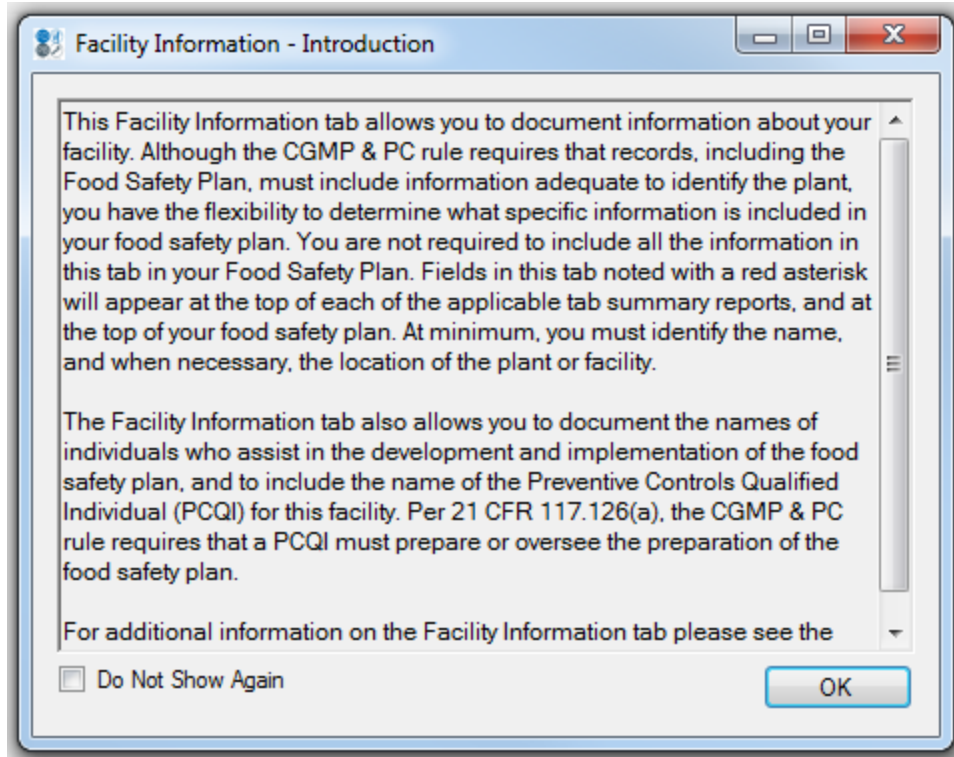

Figure 17: Introduction Pop-Up
- Question preview:** Throughout the application, in the left tree view, you can hover over the questions/features and read details for that particular question/feature (Figure 17).